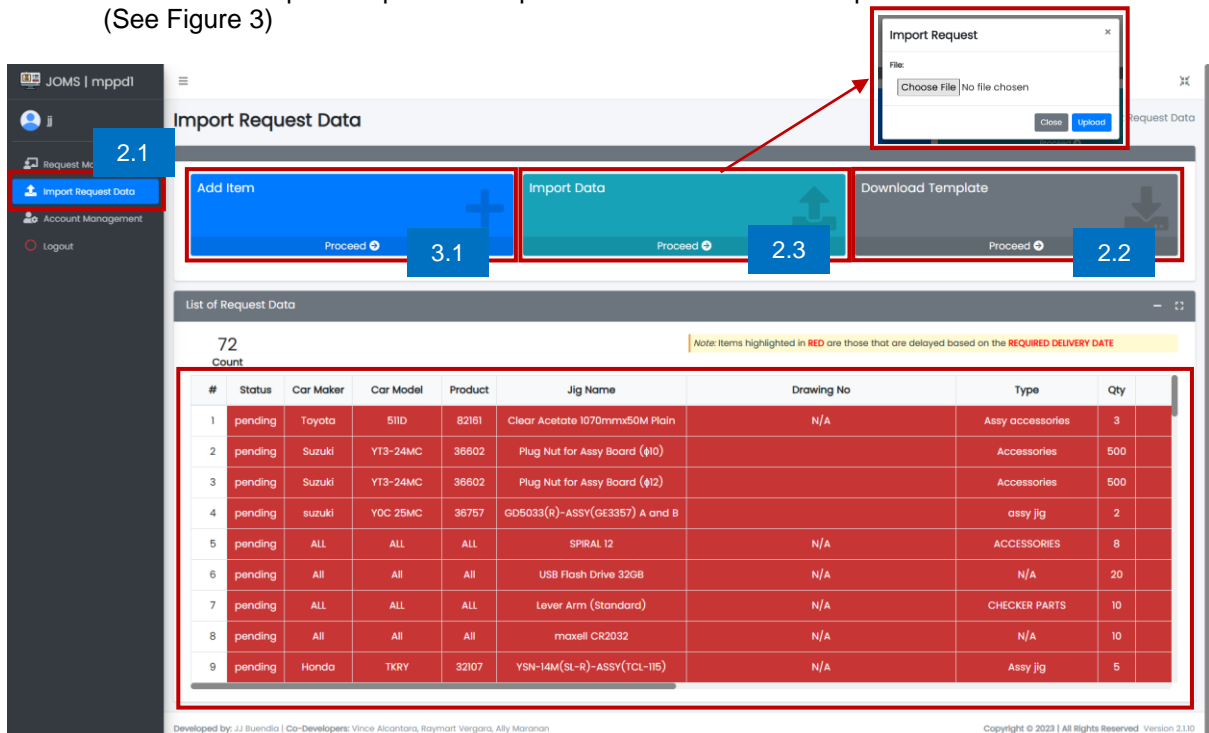

Figure 2. MPPD1 Import Request Data Page
2.1 In the navigation bar, click Import Request Data. (See Figure 2)
2.3 Click proceed in Import Data then click on the Choose File button. (See Figure 2)
3.1 Click on the proceed button of the Add Item. (See Figure 2)